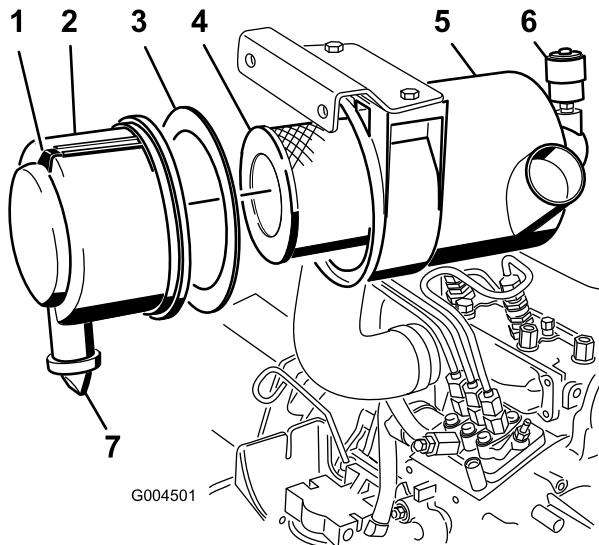

Figure 44
- Service the air cleaner filter when the air cleaner indicator (Figure 44) shows red or every 400 hours (more frequently in extremely dusty or dirty conditions). Do not over service the air filter.
- Pull the latch outward and rotate the air cleaner cover counter-clockwise (Figure 44).
- Remove the cover from the air cleaner body (Figure 44).
- Remove and replace the primary filter (Figure 44).
- Ensure that the foam gasket is in place in the cover and that it is not torn or damaged (Figure 44). If it is damaged, replace it.
- Remove the rubber outlet valve from the cover (Figure 44).
- Reset the indicator (Figure 44) if showing red.